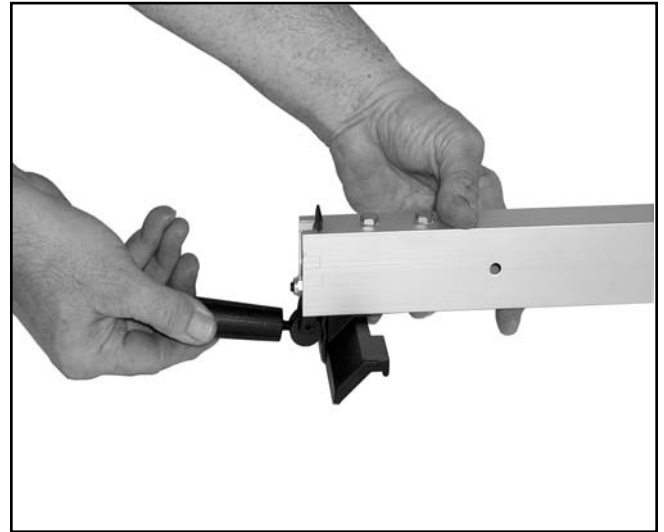

Figure 8. Attaching fence locking handle.
1. Attach the fence locking lever by threading it into the eccentric located at the front of the fence. **See Figure 8.**